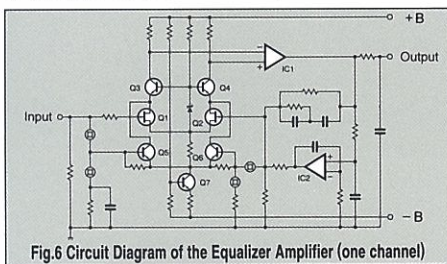

Fig.6 Circuit Diagram of the Equalizer Amplifier (one channel)
The E-306 incorporates a high-performance phono stage (Fig. 6) designed to enable top-notch reproduction of your valuable analog records. Separate input circuits are provided for moving-coil (MC) and moving-magnet (MM) cartridges, to fully bring out the advantages of each cartridge type. Since MM cartridges have high output voltage as well as high output impedance, the FET input stage is designed to maintain high input impedance over the entire frequency range. On the other hand, the MC section has to deal with very low-level signals at low impedances. Therefore, two low-noise de-